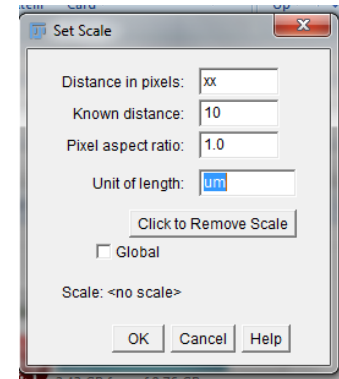

**Figure 9.** Visualized vesicles in onion cells (x20)
- 2) Take several movies of a number of particles undergoing Brownian motion. See Figure 9.